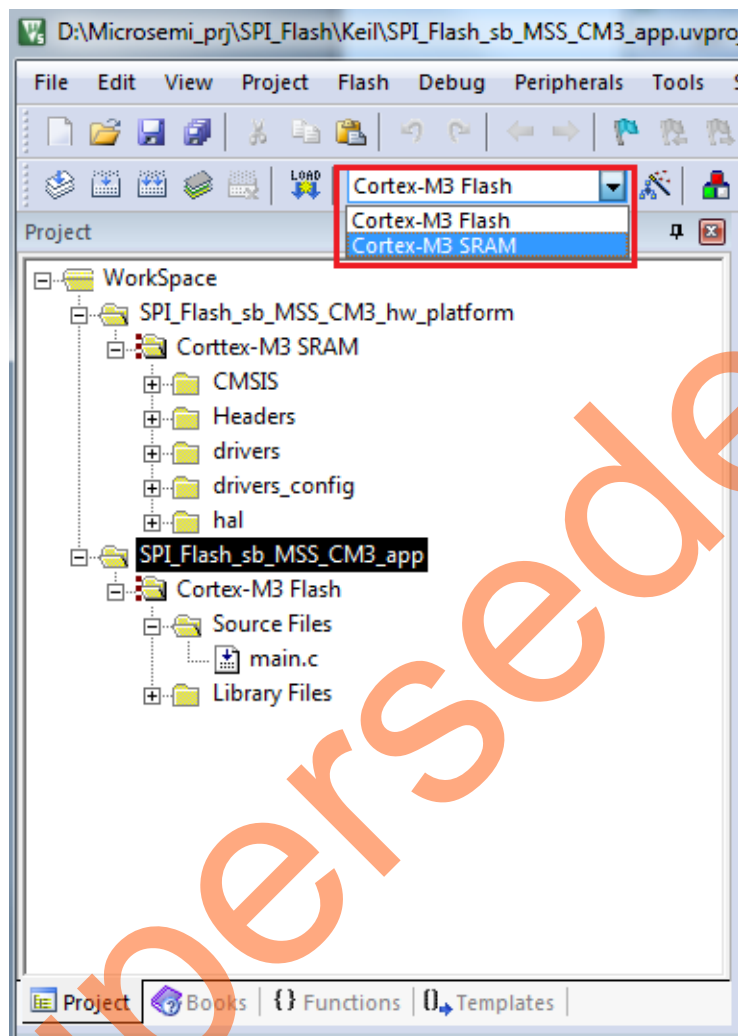

Figure 28 • Cortex-M3\_SRAM Settings
11. Change **SPI\_Flash\_sb\_MSS\_CM3\_app** debug mode to **Cortex-M3\_SRAM** by selecting **Cortex-M3\_SRAM** from the drop-down list, as shown in Figure 28.